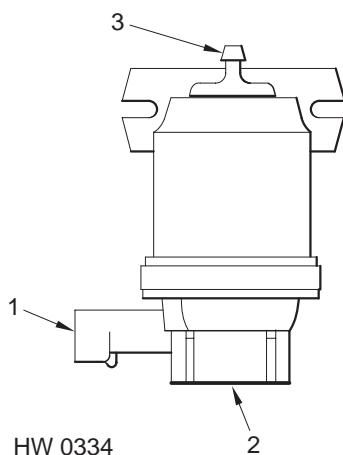

Fig. 4.2 - Air Filter Indicator Switch
Note: The indicator has to be manually reset by pressing the yellow button (1) on the bottom (see fig. 4.2).